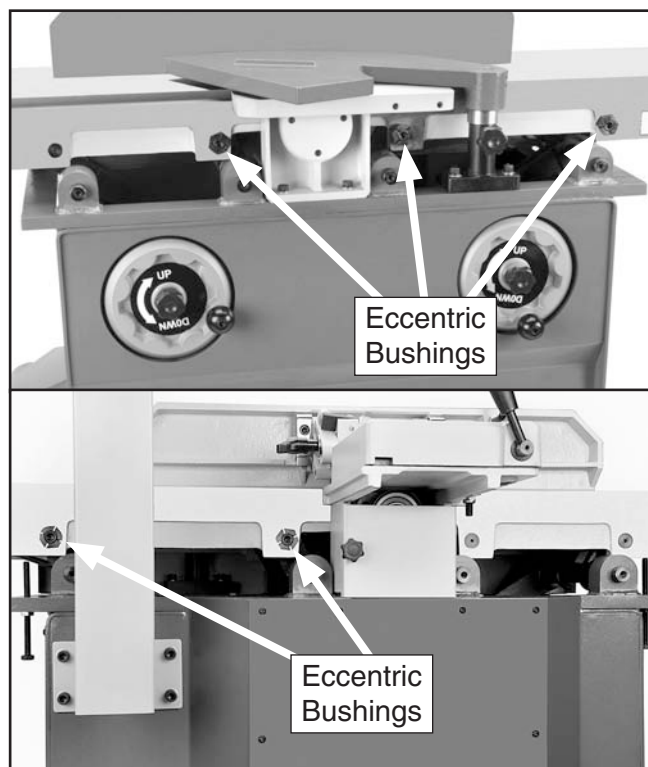

Figure 54. Location of eccentric bushings.
2. Remove the cover panels from the front and rear of the machine to expose the eccentric bushings shown, in **Figure 54**.